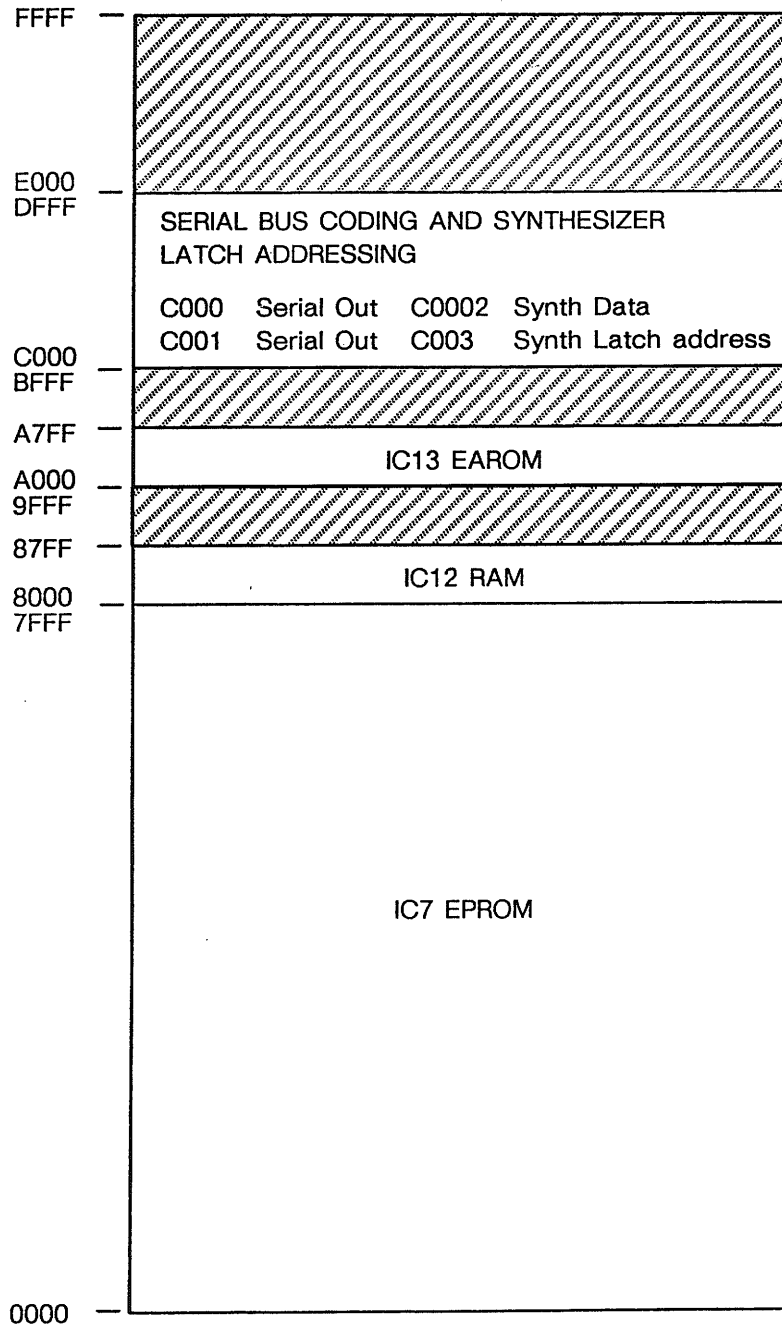

Fig. 4-6 Allocation of memory space (AA2/11)
67. Both of these latches are configured as part of the memory address space, see Fig. 4-6, and are merely written to when frequency data is to be updated. IC8 provides the address decoding and controls the routing of the WR L path through IC9b and d. A positive edge transition on IC14 or IC15, pin 9 will transfer input data to the outputs.